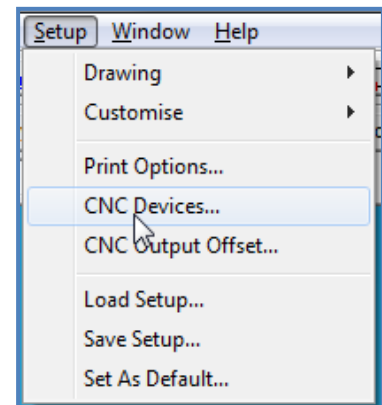

Figure 11
- Choose Setup > CNC Device (Figure 11)